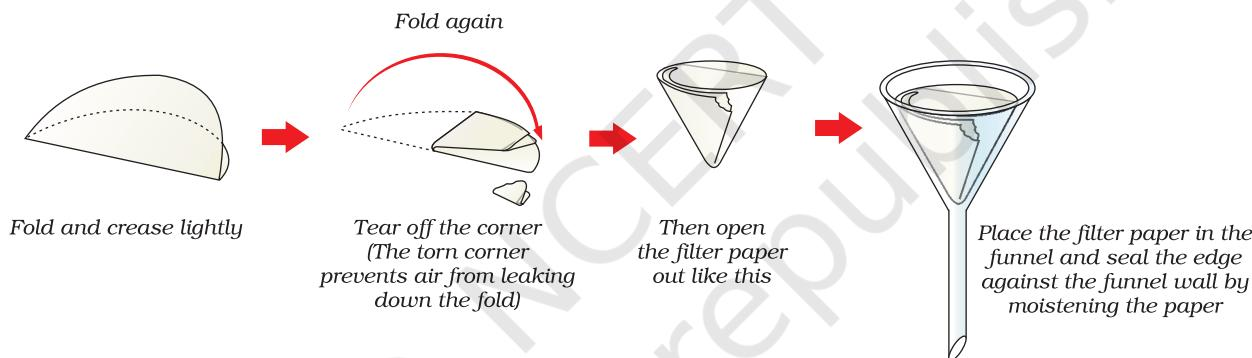

Fig. 2.10 : Folding the filter paper and placing it in the funnel
- Fold the filter paper to fit in the funnel as shown in Fig. 2.10. For this, fold the circular filter paper in half, tear off a small piece of paper from the corner and once again fold it.